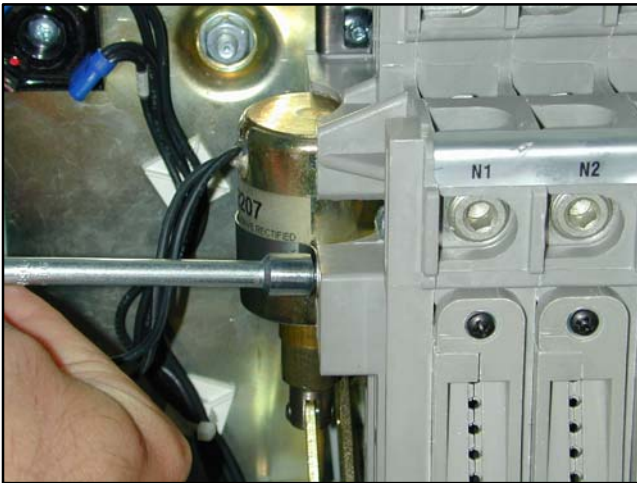

Figure 7-52 Coil Securing Strap
13. Remove the front bolt of the coil securing the strap. See Figure 7-52.
21. Tighten the bolts for the coil holding strap. See Figure 7-52.